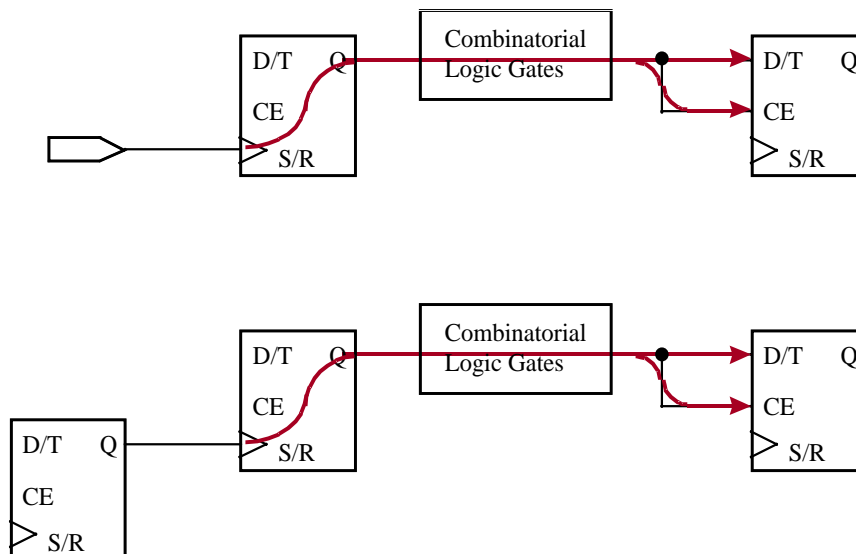

Figure 6-8. Default Register-to-Register Delay Path Tracing
**Maximum Clock Operating Frequency** – The fMAX path trace analysis reports the worst-case fMAX (maximum clock operating frequency) for each clock in the design. fMAX is equal to reciprocal of the worst case register-to-register delay (Figure 6-8).